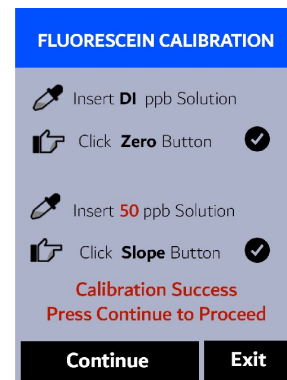

Figure 23.
9. If the calibration succeeds, a second checkmark (  ) "**Calibration Success**" message will appear (Figure 23). Otherwise, a warning message is displayed.